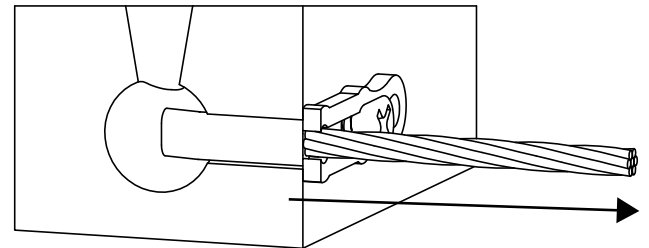

FIGURE 2
5. Pull bond out of mold cavity until the end of the bond terminal is flush with the inside of the bond clip. This will properly align the bond in the mold for welding. See Figure 2.